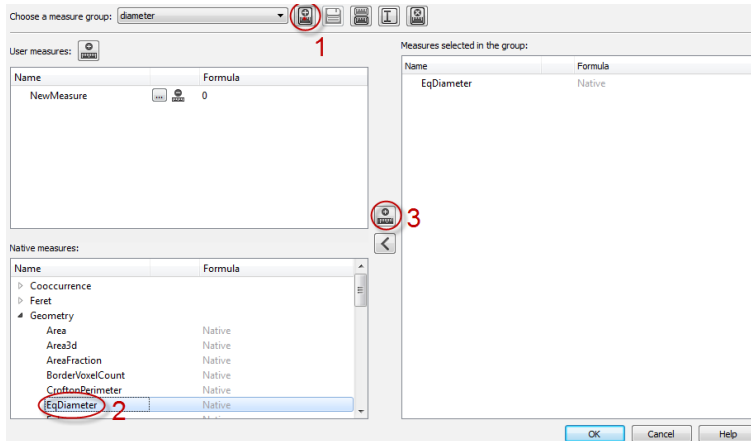

Figure 4.49: Selection of measure groups
- Press on the configuration button of the *Measures* port (the button with 3 dots). A panel opens for the selection of measure groups (see Figure 4.49).
- Create a new measure group by pressing the dedicated button next to the measure group selector (1).
- Select EqDiameter in the native measures list (2) and use the arrow button to add it to the group (3).